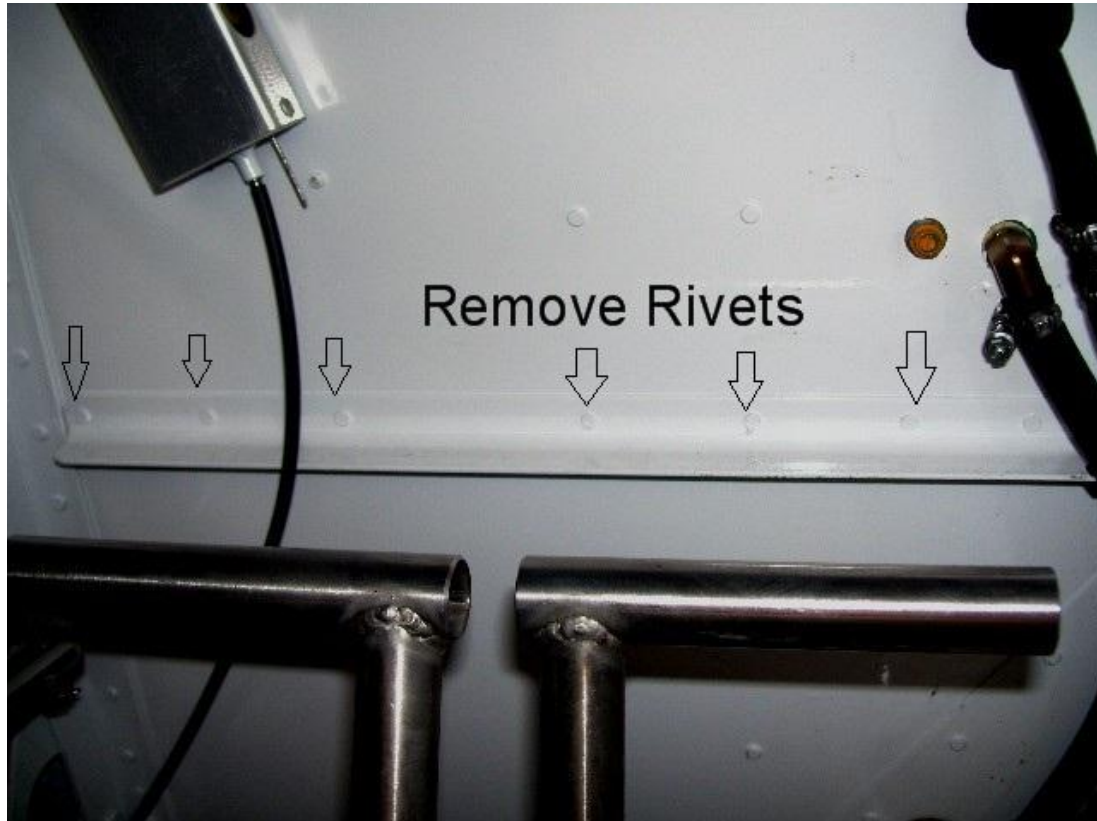

Fig. 3
2. Cut and install reinforcement channel removed earlier (see figure 3) to the Firewall with rivets to insure firewall reinforcement.